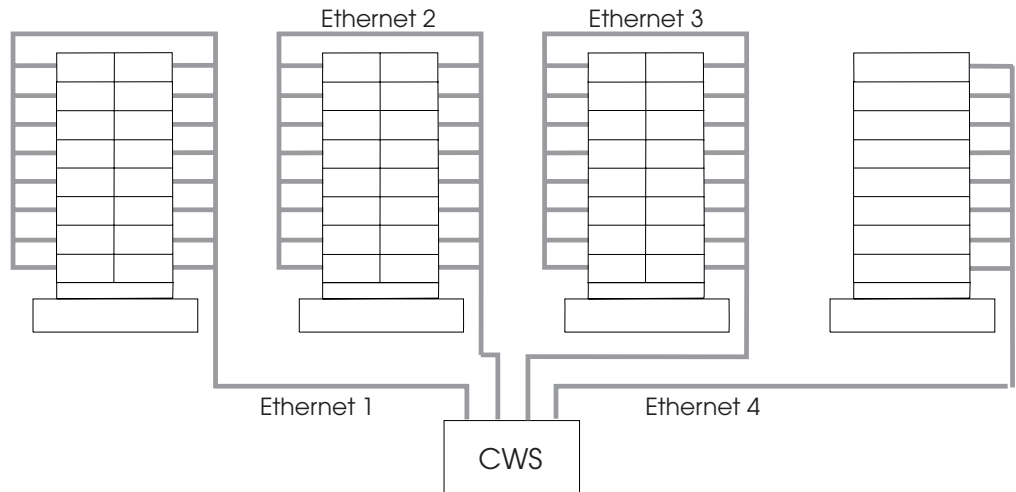

Figure 6. Method 1 Ethernet Topology for Multi-Frame SP System
1. The first method uses a control workstation with one Ethernet adapter for each frame of the system, and one associated SP Ethernet per frame. So, if you have a system with four frames as in Figure 6 on page 81, the control workstation must have enough I/O slots for four Ethernet adapters, and each adapter connects one of the four SP frame Ethernet segments to the control workstation. Using this method, you install the first eight nodes on a frame at a time, or up to 32 nodes if you use all four Ethernet segments simultaneously. Running two installs will install up to 64 nodes. Figure 6 on page 81 shows an Ethernet topology for this multi-frame system.